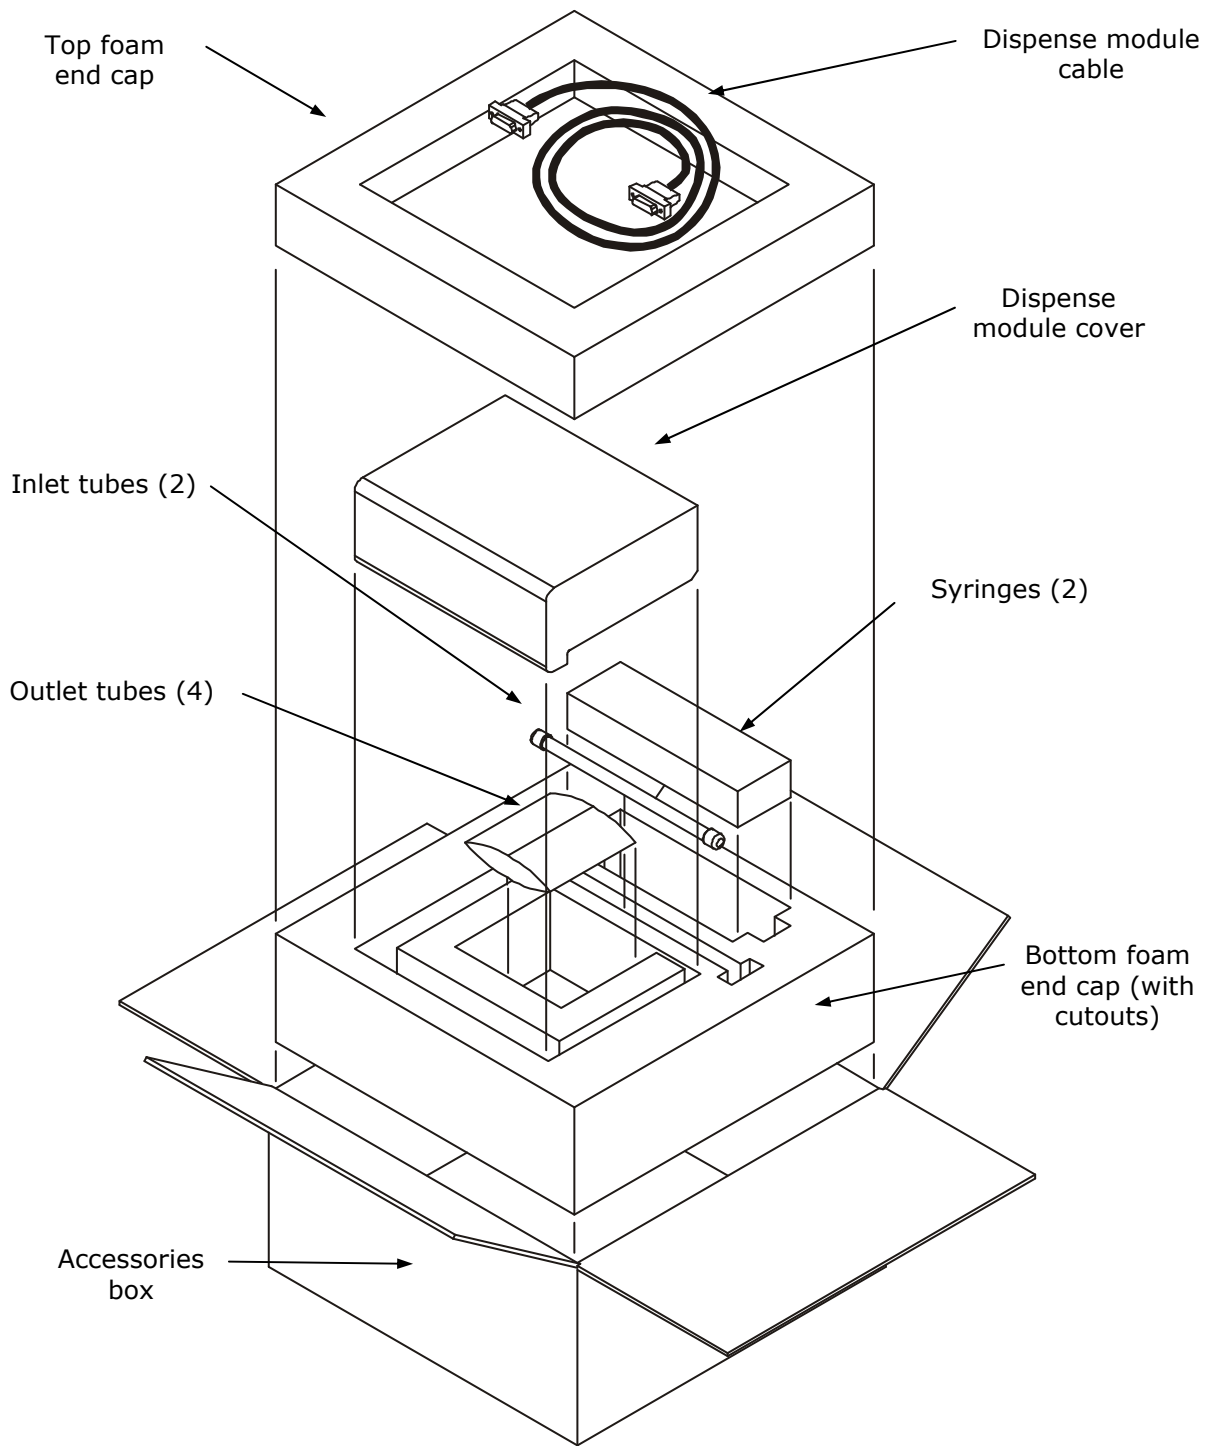

Figure 9: Unpacking the dispense module's accessories
3. Open the accessories box. Remove and identify its contents (see **Figure 9** on the next page):